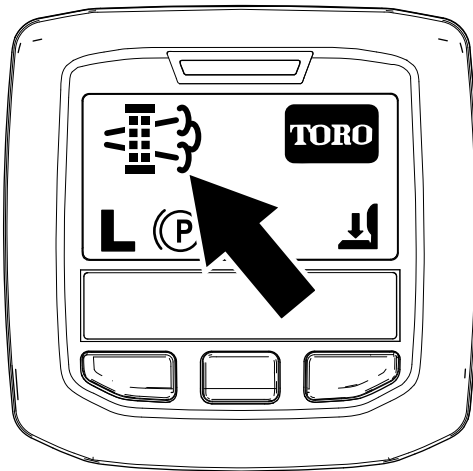

Figure 51
- When the engine computer requests either a parked regeneration or a recovery regeneration, the regeneration request icon (Figure 51) displays in the InfoCenter.